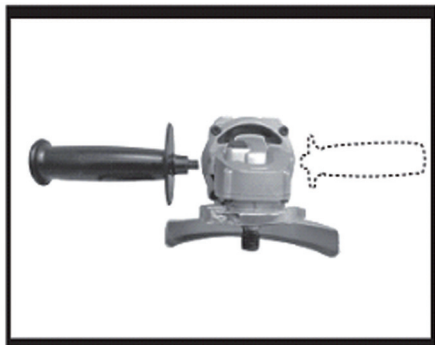

Fig. 1
1. AUXILIARY HANDLE (SEE FIG 1)